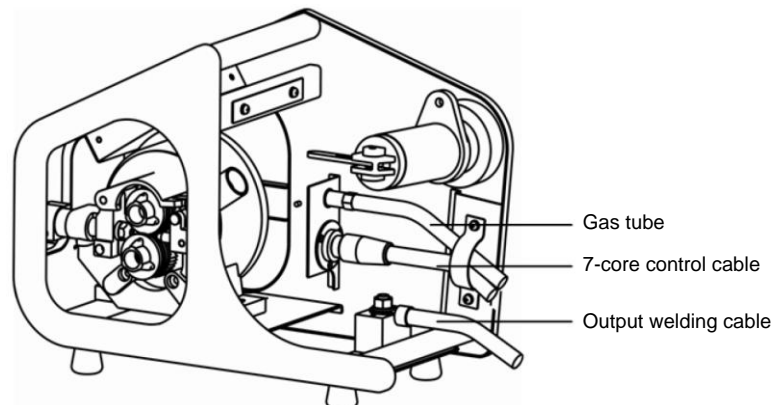

Figure 2-8 Schematic diagram of connecting the wire feeder
5. Figure 2-8 shows the cable connections.